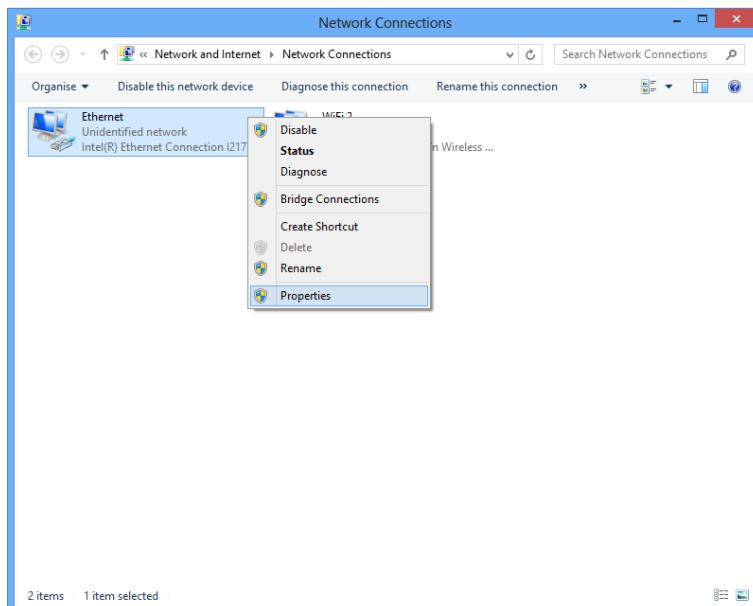

Fig. 8.5: Property window of the Ethernet network.
- c. Right click on the Ethernet icon and select "Properties", as in **Fig. 8.5**.